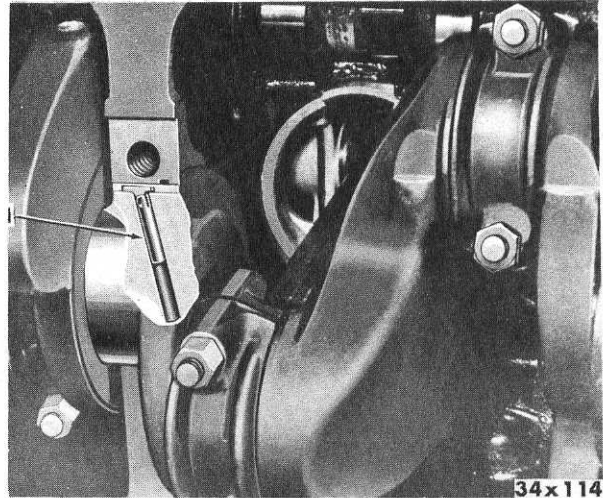
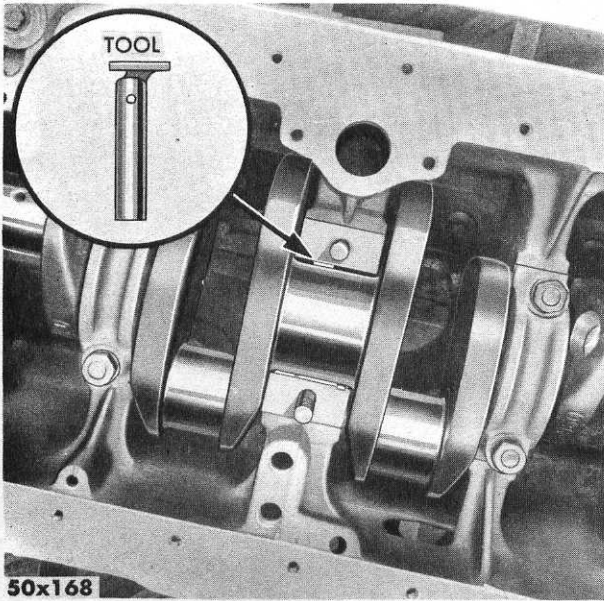

Fig. 8—Removing Upper Main Bearings
Fig. 10—Removing or Installing Upper Bearing Shells with Tool C-584
- (4) Remove and install the upper bearing shells, one at a time, with Tool C-584 (Fig. 8, page 21). Insert the pin of the tool in the oil hole of the crankshaft (Fig. 10, page 21). Slowly rotate the crankshaft clockwise, forcing out the bearing.
Start the new bearing in place. Then, insert Tool C-584 in the oil hole in the crankshaft and slide the bearing in place. Slowly rotate the crankshaft counter-clockwise (Fig. 10).